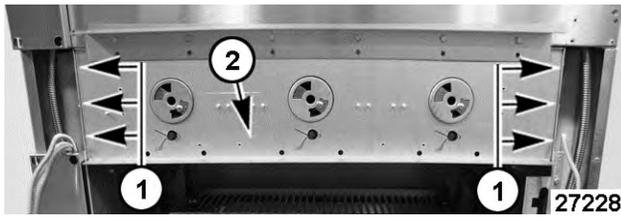

Fig. 16
8. Remove screws [1] Fig. 16 (qty 6) securing burner support [2] Fig. 16 to broiler frame.